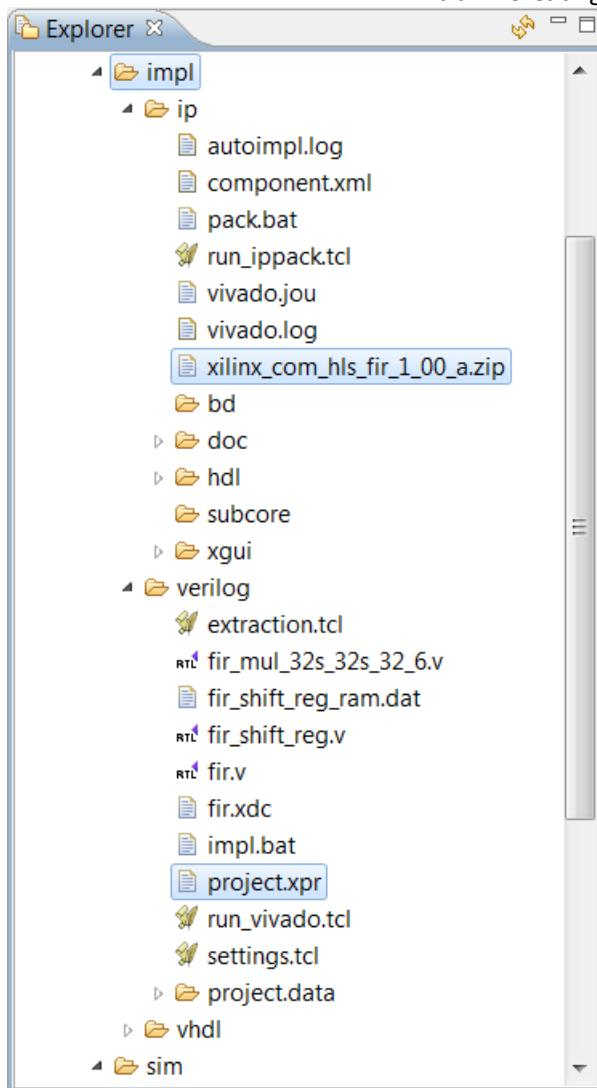

Figure 16: RTL Verification Results
8. Expand the ip folder and find the IP packaged as a zip file, ready for adding to the Vivado IP Catalog (Figure 16).
Also note in Figure 16, if you expand the Verilog or VHDL folders inside the impl folder, there is a Vivado project ready for opening in the Vivado Design Suite.